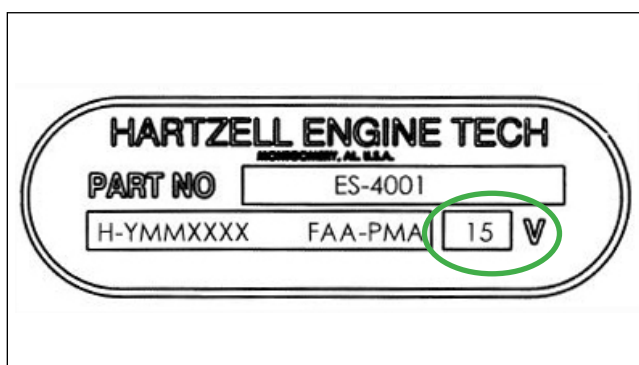

Figure 1 - **CORRECT** Voltage Rating
- (1) If previous compliance cannot be verified through aircraft or engine maintenance records, use the same references to determine if an affected alternator has been installed. Refer to section 1.A, Effectivity.
- (2) If effectivity of the alternator cannot be established using aircraft or engine maintenance records, utilize the applicable aircraft maintenance manual to gain access to the alternator and inspect the alternator serial number against affected serial numbers found in section 1.A of this SB.
- (3) If the alternator serial number is affected per section 1.A, inspect alternator nameplate for correct voltage rating. Refer to Figures 1 and 2.